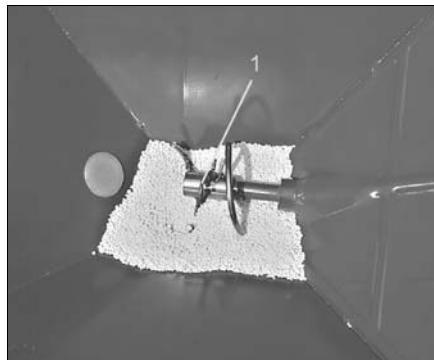

Fig. 38
- Agitator spiral clip (Fig. 38/1) serve as shear off safety for the agitator shaft.